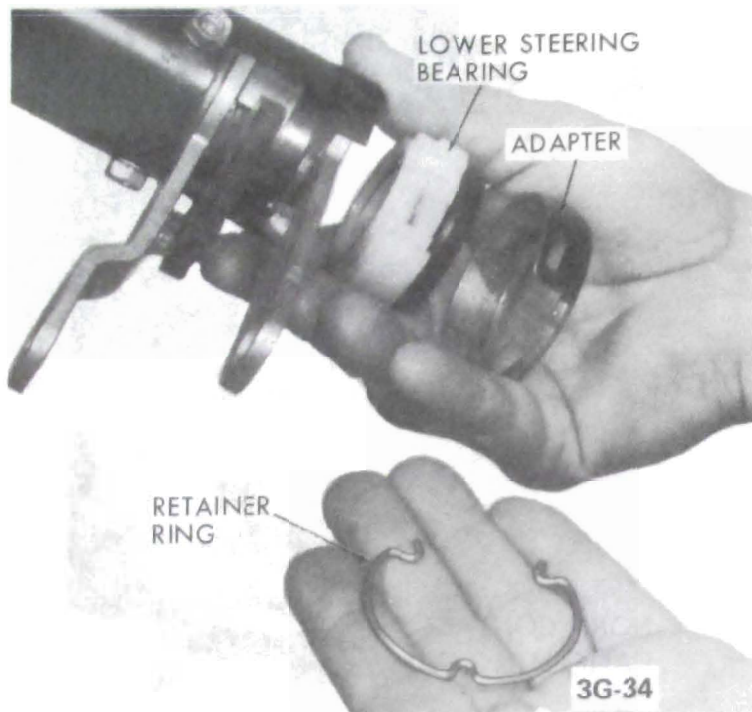

Figure 3G-34 - Installing Lower Steering Column Bearing - Manual Transmission
2. Insert the shift tube assembly into the lower end of the jacket and rotate until the upper shift tube key slides into the bowl keyway. See Figure 3G-28.
3. (Manual Transmission Only) Loosely attach three screws in jacket and shift tube bearing. See Figure 3G-23.
(Manual Transmission) Assemble the first/reverse lever and adapter assembly into the bottom of the jacket. Holding the adapter in place, insert the snap ring in the jacket slots. See Figure 3G-34.
5. (Manual Transmission Only) Place a .005 shim between first/reverse lever and lever spacer and turn upper shift bearing down and tighten the three screws. Remove shim. See Figure 3G-35.
6. (Automatic Transmission) Install the neutral-start switch, making certain the proper screws are used. See Figure 3G-20.